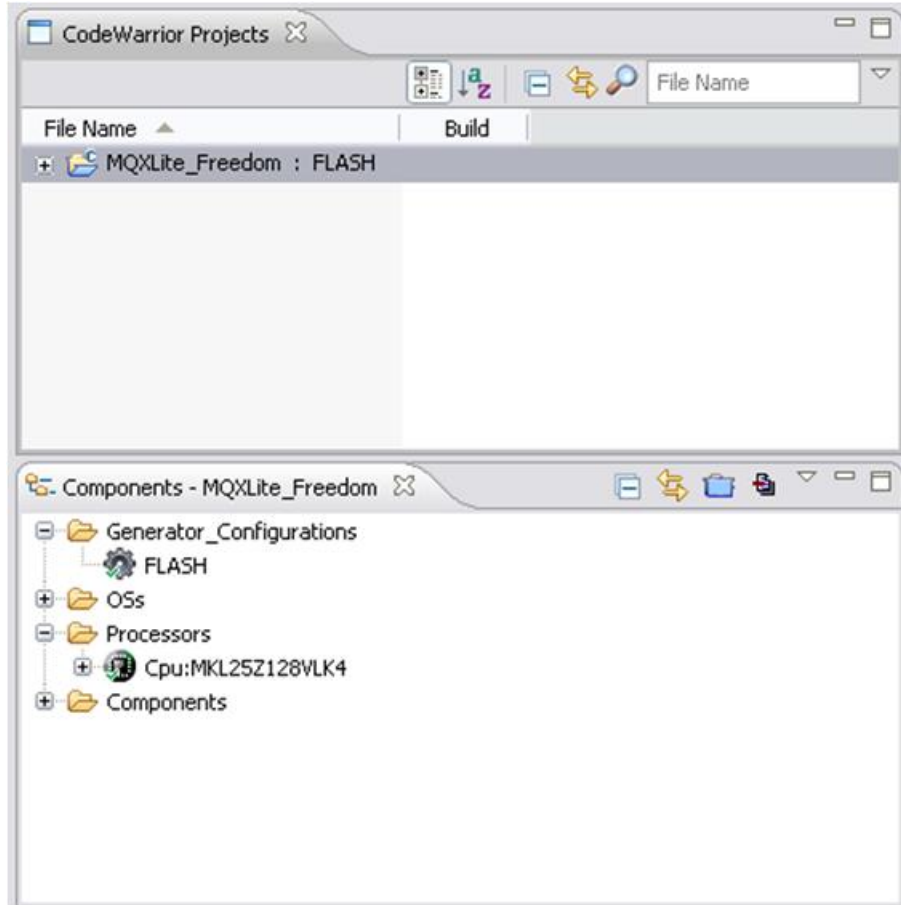

Figure 15. “CodeWarrior Projects” and “Components” windows
13. When the wizard finishes CodeWarrior has a new appearance that looks like figure 15. There are two main changes. The “CodeWarrior Projects” window has a new project included and the “Components” window shows the Processor Expert added components.